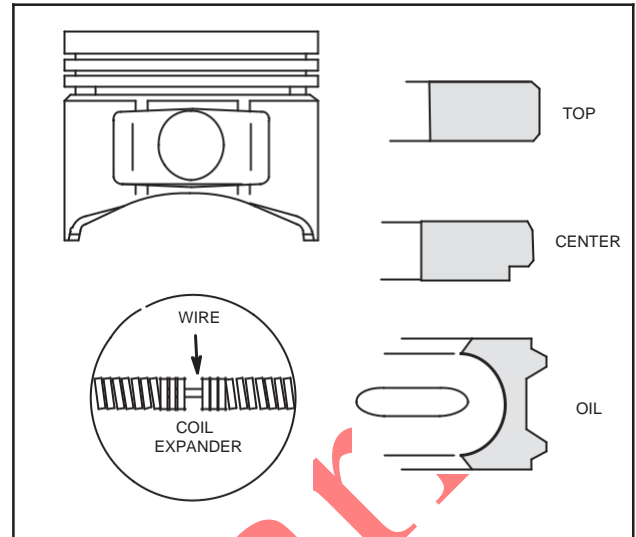

Fig. 10 – Piston Ring Installation – Model 405700
1. Install piston rings using ring expander, Tool #19340, Fig. 10.